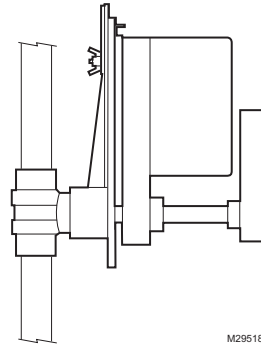

Fig. 1. Vertical valve installation.
- (1) Clockwise to increase B to AB flow.
- (2) Counterclockwise to increase A to AB flow.
6. Valve must be mounted with the actuator/bracket above the valve body. Do not install the valve with the stem below horizontal or upside down. (See Fig. 1 and 2.)